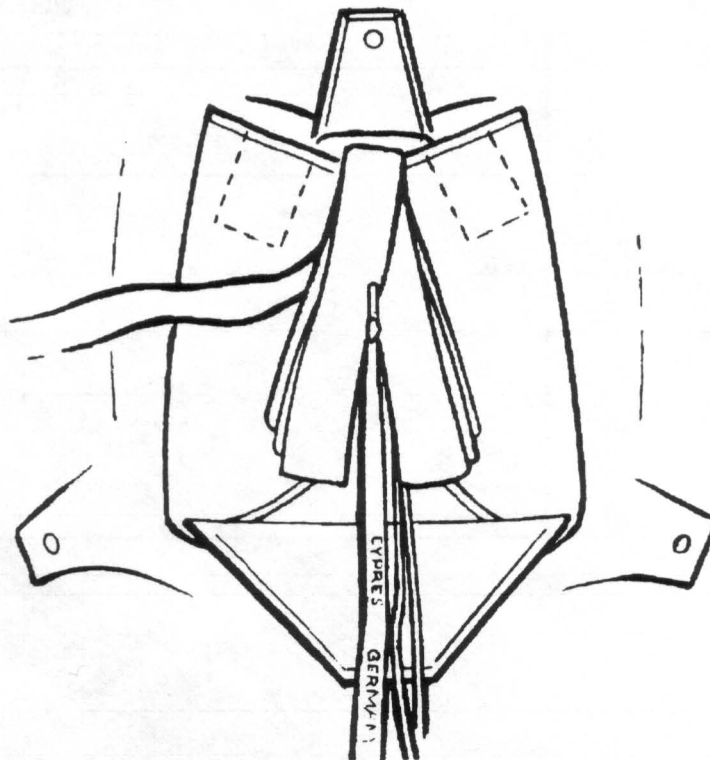

FIG. 13
- 7) Lay the reserve risers in the container so that the connector links are in the lower corners of the container. Pass the pull-up cord through the closing loop, then thread it through the grommet in the free-bag. Lay the bag in the container with the line-stow pouch on the under side. Close each side flap in turn, securing the flaps with the temporary pin. Push the tuck flaps under the ears of the bag. "S" fold the bridle evenly up and down both sides of the temporary pin and pull-up cord. (FIG. 13)